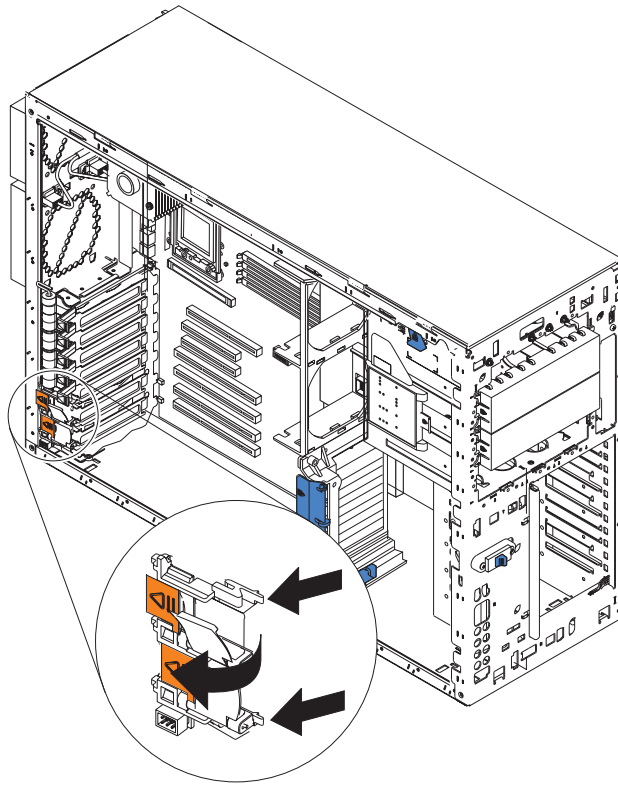
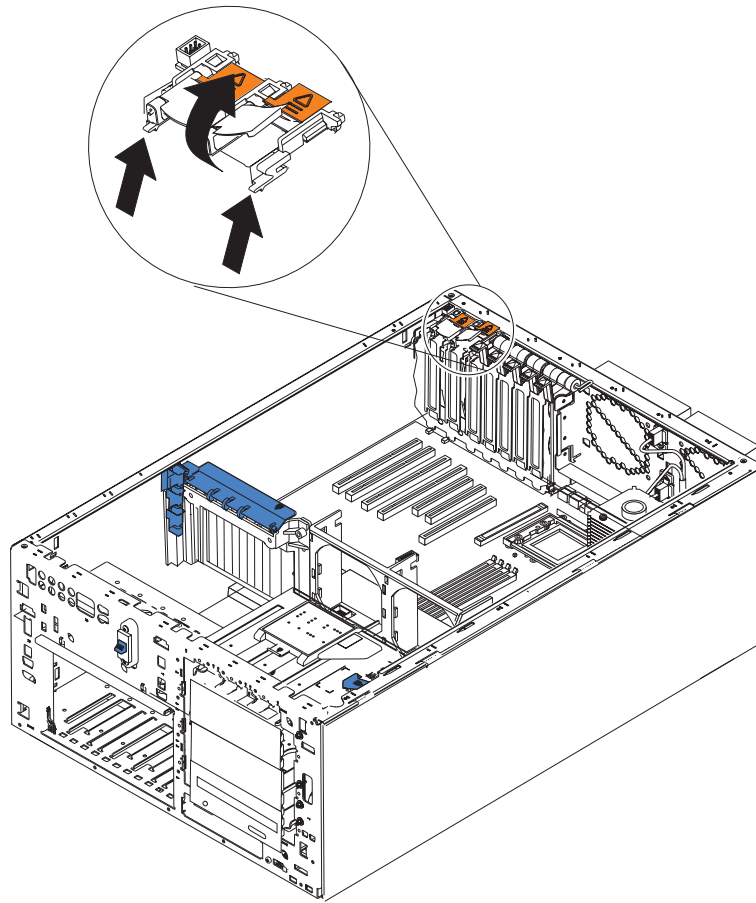

Figure 35. Removing the Active PCI card (Model 25T)
Figure 36. Removing the Active PCI card (Model 25T with the rack-mount conversion feature)
7. Press the two tabs (see Figure 35 on page 98 or Figure 36 on page 99) on the card and remove it from the chassis.